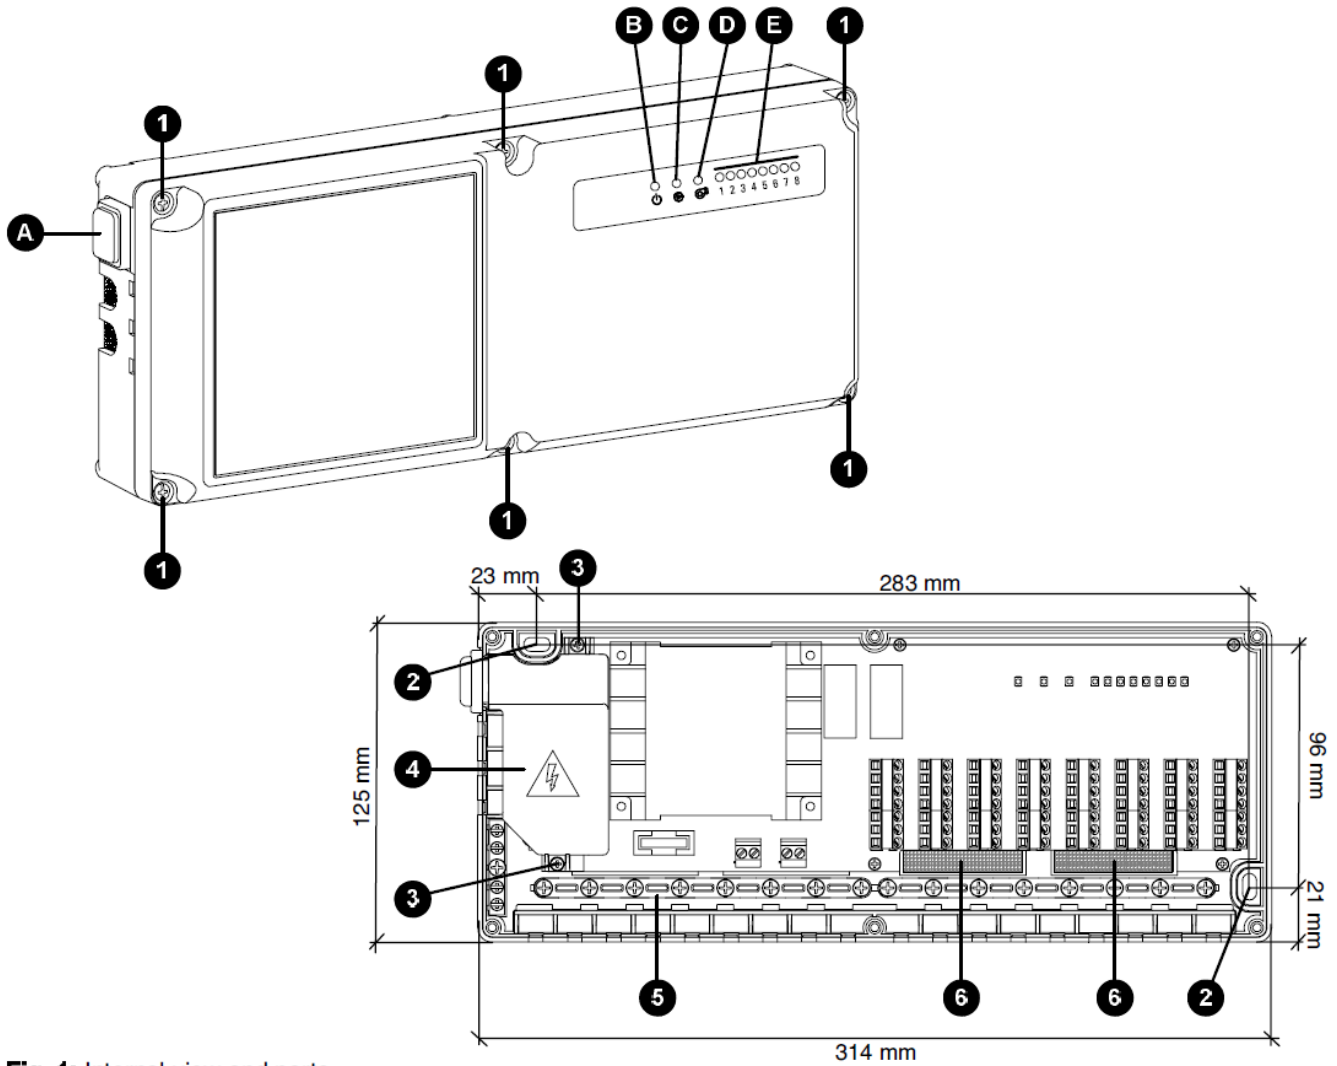

Fig. 1: Internal view and parts.
Green LED - Power Supply (B - Fig. 1)
Red LED - Pump Output Activation (C - Fig. 1)
Red LED - Boiler Output Activation (D - Fig. 1)
Actuator Outputs State LEDs (E - Fig. 1)
ON/OFF Illuminated Switch (A - Fig. 1)
The illuminated switch at the lower left hand side of the wiring centre will isolate the whole of the wiring centre except the parts under the plastic cover (4 - Fig. 1) to allow access to thermostats and actuators for testing and fault finding during installation. When the switch light is turned on the wiring centre is powered, when it is off the wiring centre is unpowered.
- Remove the 6 screws labelled as 1 in Fig. 1 then remove the front plastic cover.
- Fix the device base to the wall by using the two screw holes labelled 2 in Fig. 1.
- Remove the 2 screws labelled as 3 in Fig. 1 then remove the plastic cover labelled as 4 in Fig. 1.
Cable entry from the rear (6 in Fig. 1):
With the help of a screwdriver, remove the plastic knockouts from the base, see item 6, Fig. 1. Cables can then be taken through the backplate to the terminal connections.